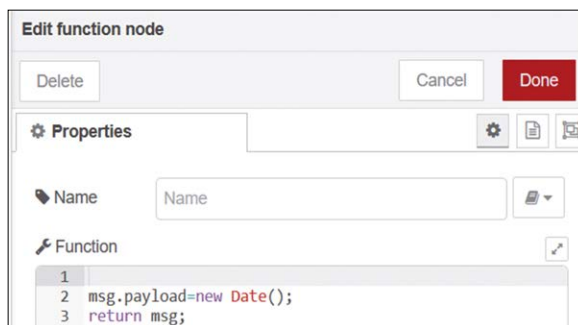

Figure 4.12 Function to get the data and time
- Wire the two nodes together. Click on the function node and enter the following as shown in Figure 4.12. Click **Done**: